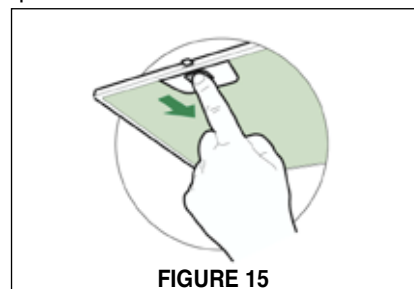

FIGURE 15
**FIGURE 14** is an illustration of the control panel and **FIGURE 15** is the remote control illustration. On the remote control key E and F are controlled with one button. Press the button once for function key "F" - 30 minute shut down". Hold for 2 seconds for function key "E" - 24 hr function.
When "FF" message appears on the LED screen, the metal grease filters need to be washed in the dishwasher (**SEE FIGURE 15** for removal instructions). To reset the metal grease filter alarm and the charcoal filter saturation alarm, turn off the motor and lights. Next, press and hold the 24 hour button "E" until the filter message disappears.